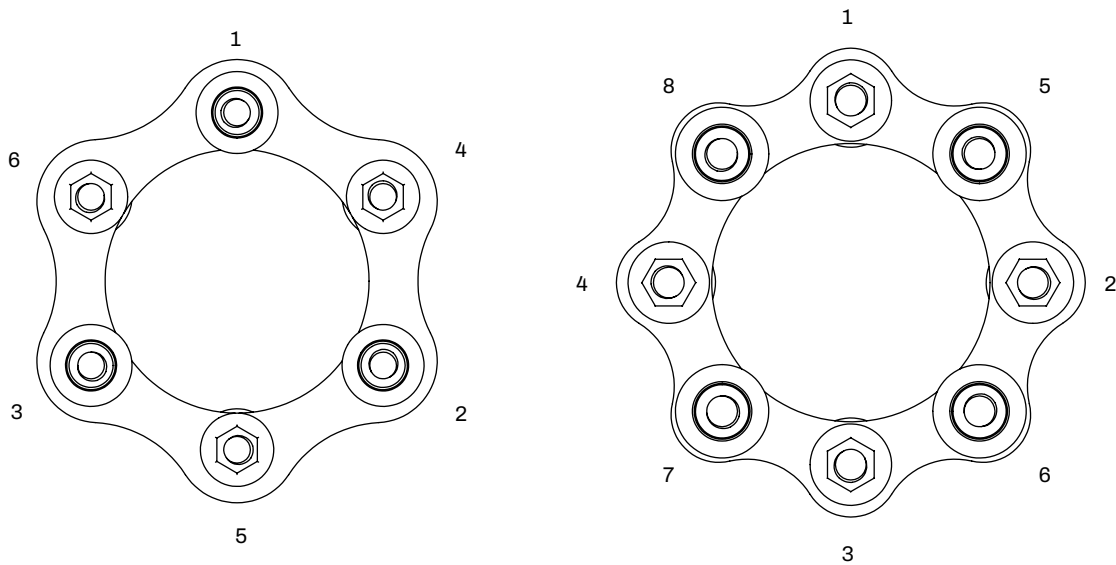

Figure 9: Disc Pack Torque Pattern
- F.** Tighten all disc pack fasteners using an alternating progressive pattern as shown in Figure 9, making sure all the fasteners are fully seated. At this stage, the installer will only be working with half of the fasteners on the disc pack.
- H.** Tighten all disc pack fasteners using an alternating progressive pattern as shown in Figure 9, making sure all the fasteners are fully seated. At this stage, the installer will only be working with half of the fasteners on the disc pack.
- I.** Now tighten each disc pack fastener to the appropriate torque value shown in Table 4, using incremental torque in a progressive alternating pattern as shown in Figure 9.